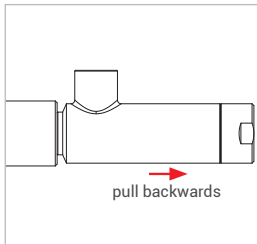

Figure 12
- ▶ Pull lightly on the connector (red arrow *Figure 12*) in the direction opposite that of the connection to make sure that the connector is firmly in place.